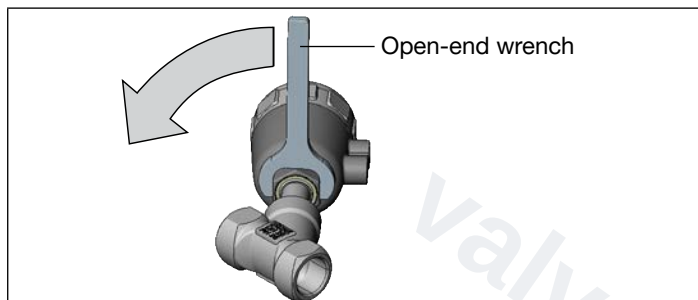

Fig. 15: Rotating with open-end wrench
- Rotate the actuator module in the specified direction only (see "Fig. 15").